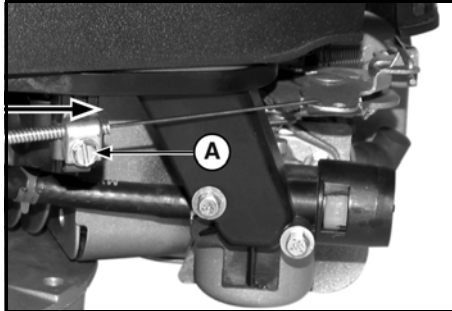
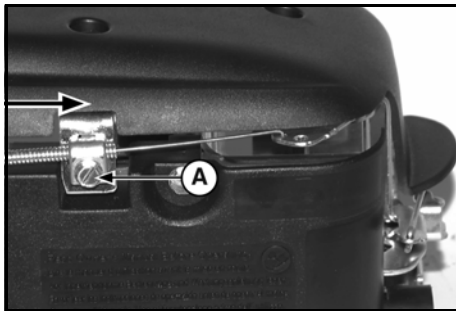

Figure 24
Figure 25
1. Loosen casing clamp screw (A, Figure 24, Figure 25).